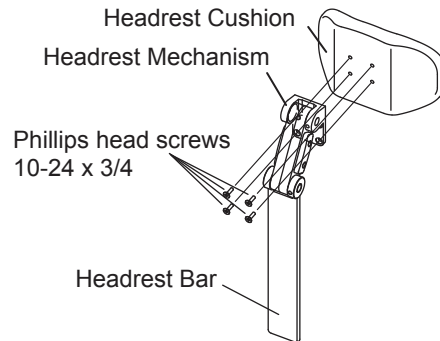

Fig 4-2-5
9) Attach headrest cushion to headrest mechanism and slide headrest bar into opening in top of backrest. See Fig 4-2-5.